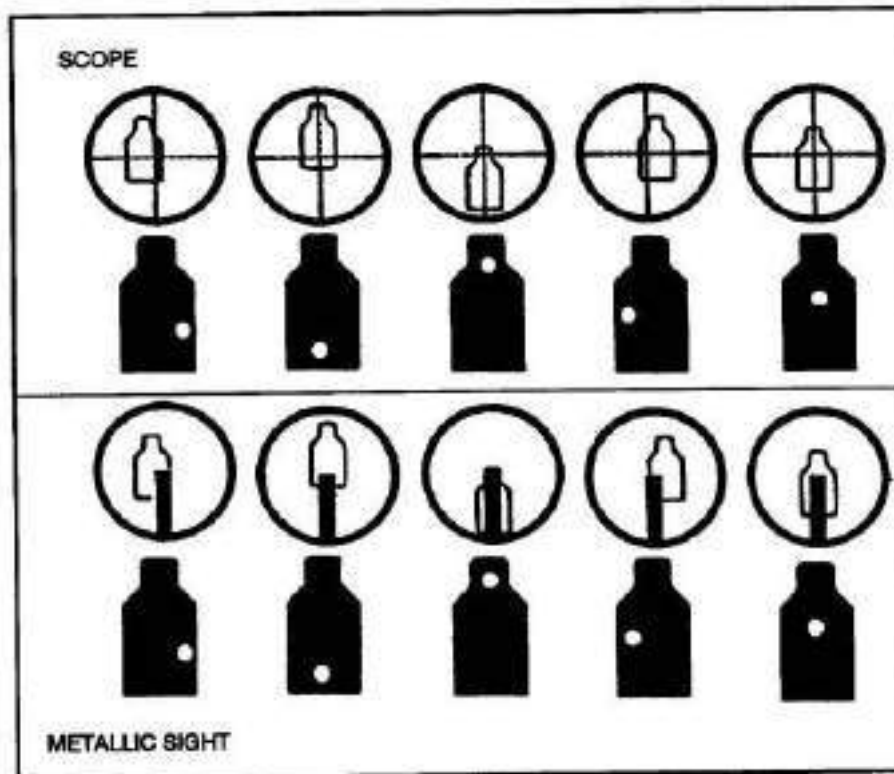

Figure 3-18. Sight picture.
c. Sight Picture. With telescopic sights, the sight picture is the relationship between the reticle and full field of view and the target as seen by the sniper. The sniper centers the reticle in a full field of view. He then places the reticle center of the largest visible mass of the target (as in iron sights). The center of mass of the target is easiest for the sniper to locate, and it surrounds the intended point of impact with a maximum amount of target area. With iron sights, sight picture is the relationship between the rear aperture, the front sight blade, and the target as seen by the sniper (Figure 3-18). The sniper centers the top edge of the blade in the rear aperture. He then places the top edge of the blade in the center of the largest visible mass of the target (disregard the head and use the center of the torso).